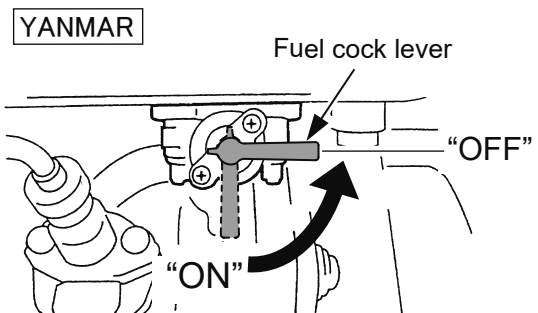

Fig.27
- 3 Move the fuel cock lever to the "OFF" position. (Fig. 27)